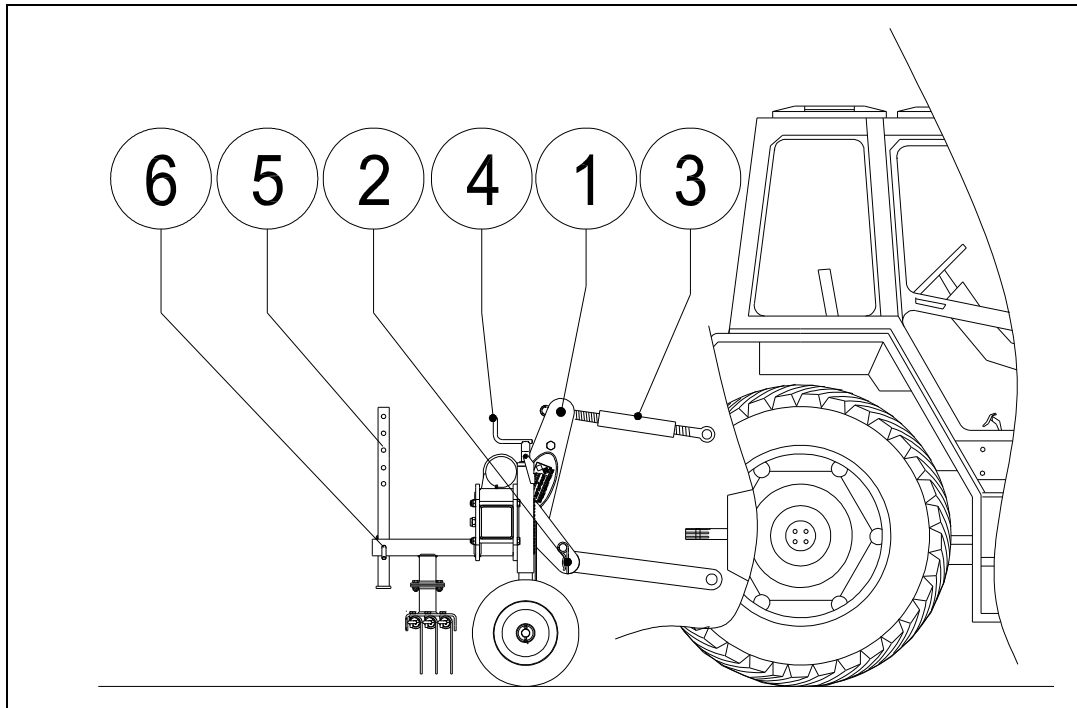

Fig. 8
This is done as follows: (Fig 8.)
Adjust the working depth by turning the spindles 4 (Fig. 8) on the front of the machine, to adjust the running wheels.
3. Turn the top rod 3 in so that the machine is at right angles to the ground. (see fig. 8)